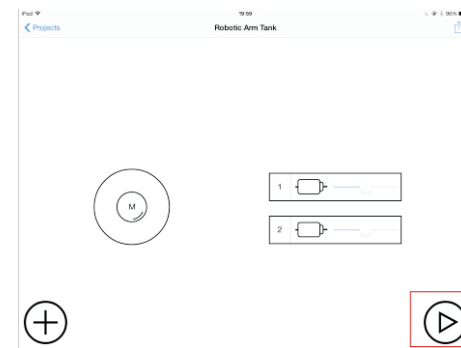
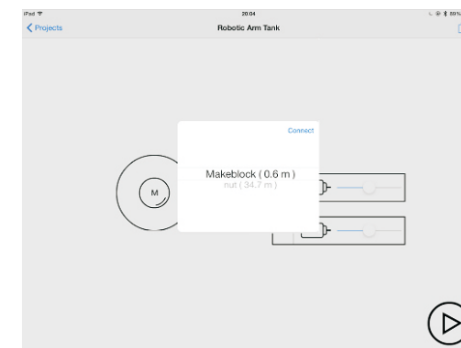

Figure 3
Figure 4
- 5、Put your smart device close to robot, touch the play button(Figure3)to find Bluetooth device,and then connect the robot to your smart device.(Figure 4)